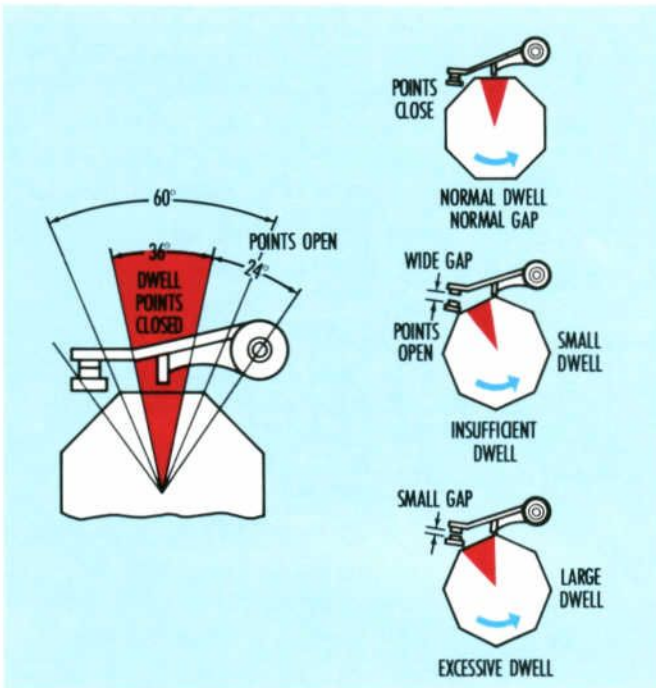

FIGURE 35. DISTRIBUTOR POINT DWELL
Distributor point dwell is proportionate to point gap. Point gap is specified and measured in fractions of inches. However, dwell is measured in degrees because it represents the angle of distributor cam rotation through which the points are closed. (See Figure 35.)
For example, one (1) degree of dwell change will result in a corresponding degree of spark timing change. Referring to Figure 35, we see configurations of cam angles as they are related to the point opening. An increase in point gap adjustment will reduce the dwell angle.
As indicated in Figure 35-A below, *NORMAL* dwell is equal to *NORMAL* timing. In other words, whenever the dwell is set to the exact specifications of the designing engineer, one need not be concerned if the spark is late or early. Either instance (late or early), will result in inefficient combustion.
late the angular configurations shown in Figure 35 to this change and observe that the reduction in the dwell angle affects the opening as well as the closing of the points an equal number of degrees. Spark timing, however, is only affected by the point opening.